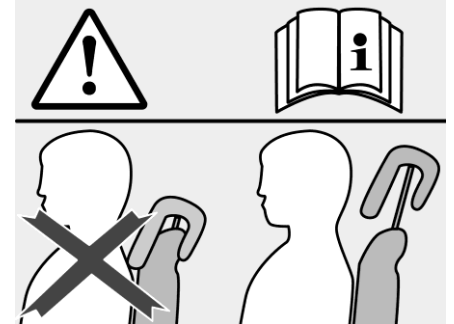

Fig. 26 Correct adjustment of the headrests
- Pull the headrest upward or push it downward until reaching the desired position (Fig. 26).